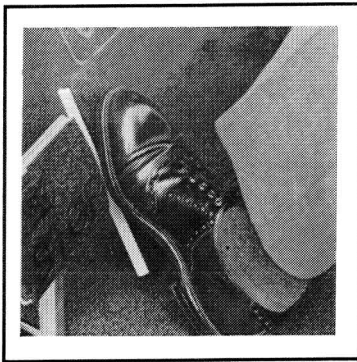

Figure 4
**Accelerator Pedal** - The accelerator pedal is the pedal on the right with the word "Go" molded in it (See Figure 4). When the key switch is on, and the shift lever is in either forward or reverse, and the accelerator pedal is pushed, the parking brake will be automatically released and the engine/motor will start. As the pedal is pushed further, the engine/motor speeds up, and the vehicle will begin to move in the preselected direction (forward or reverse). Push the accelerator pedal still further to increase vehicle speed. When the accelerator pedal is released, power to the motor will be cut off or the engine will stop running.